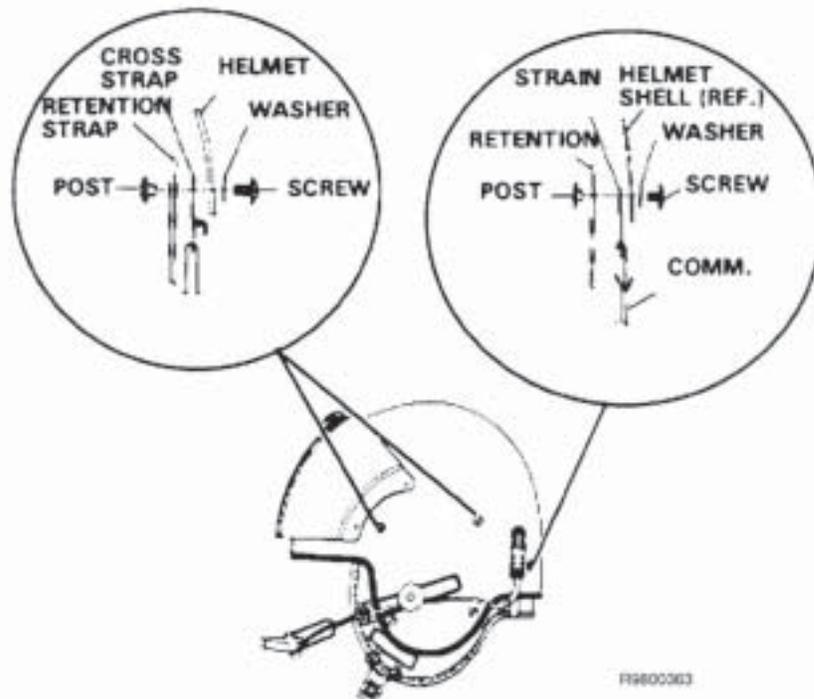

Figure 13. Retention Assembly Attachment
- The front and center straps on both sides share attaching hardware with a helmet shell cross strap. The left rear strap shares hardware with the communications cord strain relief plate. When removing hardware from any of these points, note position and order of attachment to ensure correct installation (see Figure 13).